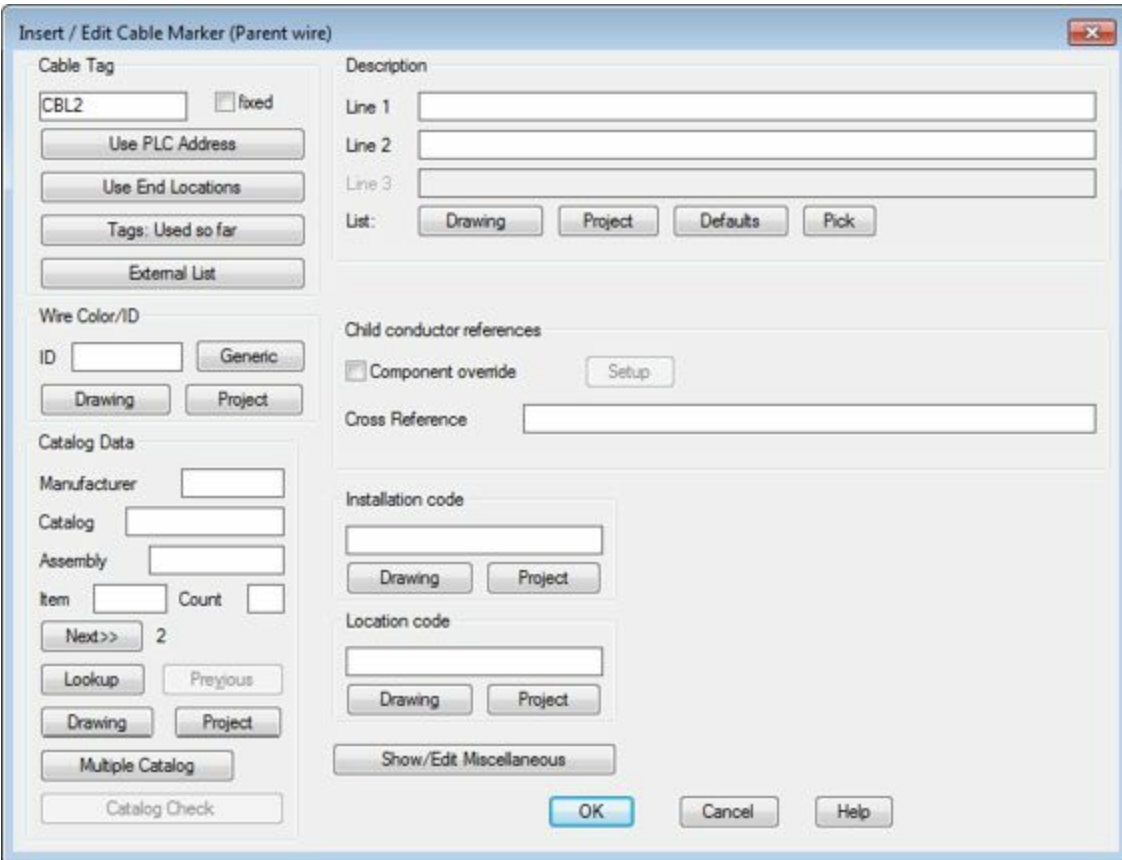

Figure-41. Insert or Edit Cable Marker dialog box
- Click on the desired symbol and then click on the wire to place the symbol. The **Insert/Edit Cable Marker (Parent wire)** dialog box will be displayed as shown in Figure-41.